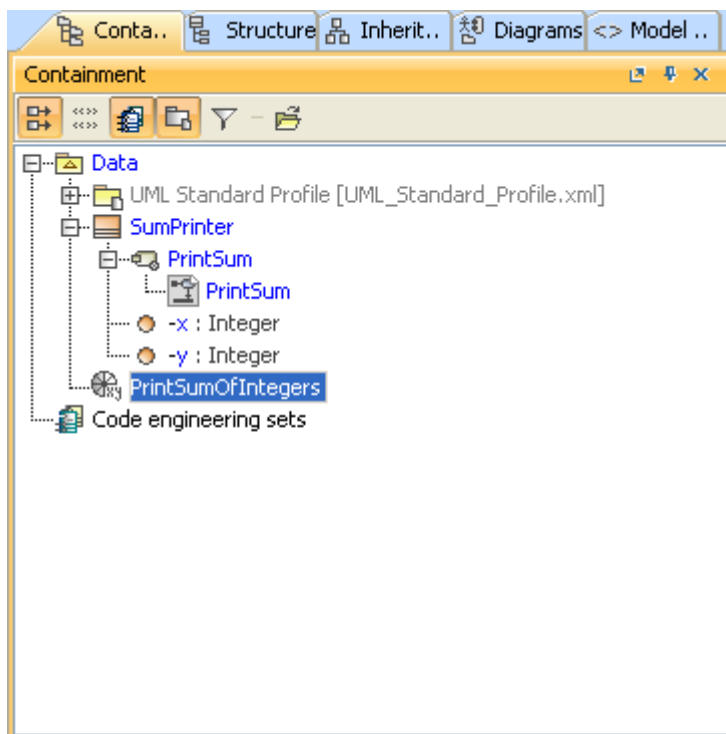

Figure 49 -- *PrintSumOfIntegers* Opaque Behavior in the Containment Browser
2. Name it "PrintSumOfIntegers" (Figure 49).